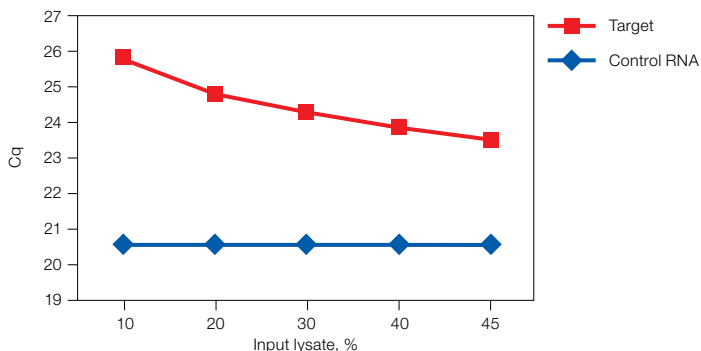

Fig. 2. Determining optimal input cell lysate amounts. The maximum allowable cell lysate input is 45%.
- RNA control: Plot the C_q values for the RNA control against the percentage input lysate (Figure 2). A constant C_q value across the input lysate range indicates no RT-qPCR inhibition. A deviation of >1 C_q value indicates RT-qPCR inhibition. Input lysate amounts that show such a C_q deviation should be avoided. In the example shown in Figure 2, optimal performance can be achieved with input lysate amounts up to 45%.
- Target gene: If a target gene is amplified in parallel with the RNA control, plot the C_q values for the target gene against the percentage input lysate (Figure 2). A decrease in C_q value is expected as input lysate increases. Deviation in the linear response of the RNA control results from incomplete lysis and/or RT-qPCR inhibition.